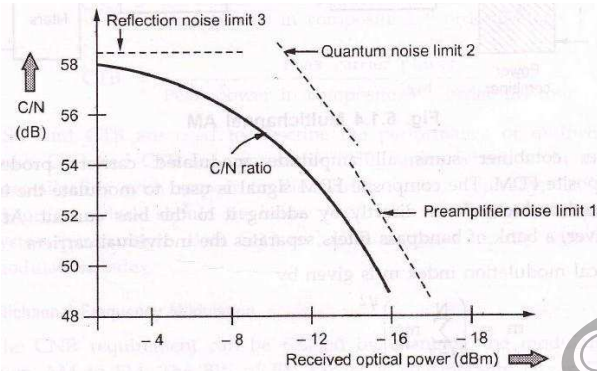

Fig. 6.1.3 C/N ratio as a function of received optical power
- x Fig. 6.1.3 shows carriers-to-noise ratio as a function of optical power level at the receiver with limiting factors. For low light levels, thermal noise is limiting factor causes 2 dB roll of in C/N for each 1 dB drop in received power. At intermediate levels, quantum noise is